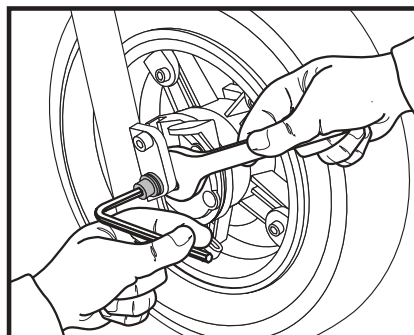

Figure 23. Front Wheel Securement
3. Remove the lower bolt that fastens the brake housing to the left side of the front fork. See figure 23.
8. Reassemble the brake to the rim and secure it with the five (5) screws.
9. Reassemble the rim and secure it together with the five (5) screws.
10. Reinstall the wheel back onto the PMV and tighten the lower bolt. See figure 23.